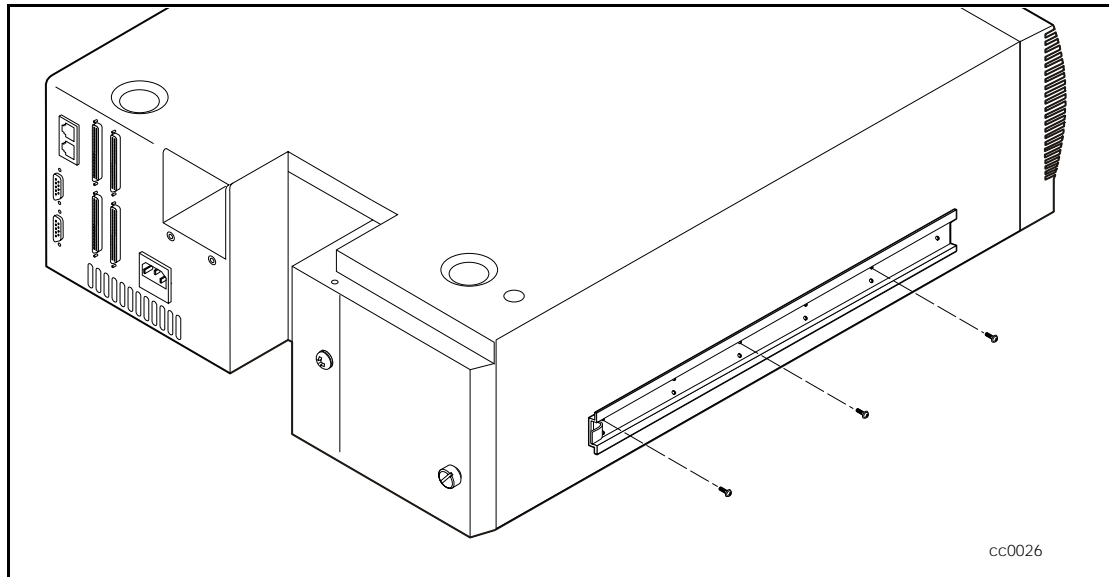

Figure C-7. Installing the inner slides
3. Attach both inner members to the Library sides. Use six pan-head screws (three each side) inserted through the upper row of holes in each inner member (see Figure C-7).